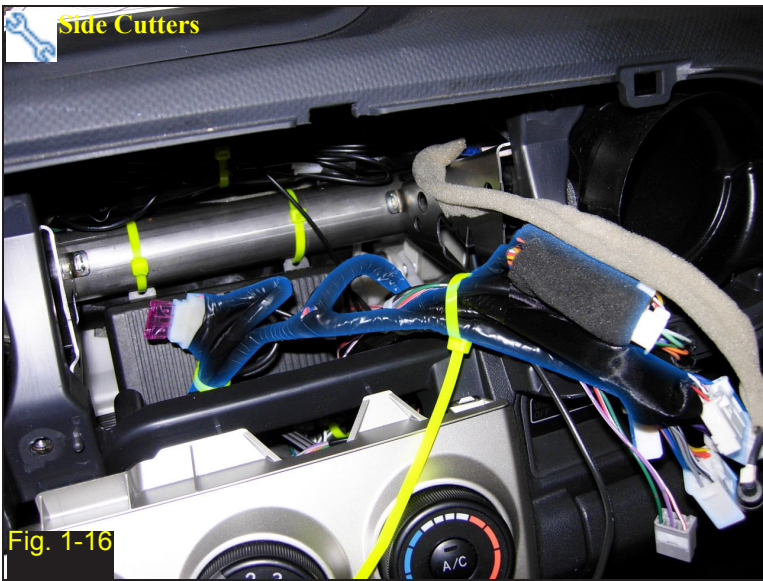

Fig. 1-16
- b. Secure module to crossbar behind the radio (Fig. 1-16).